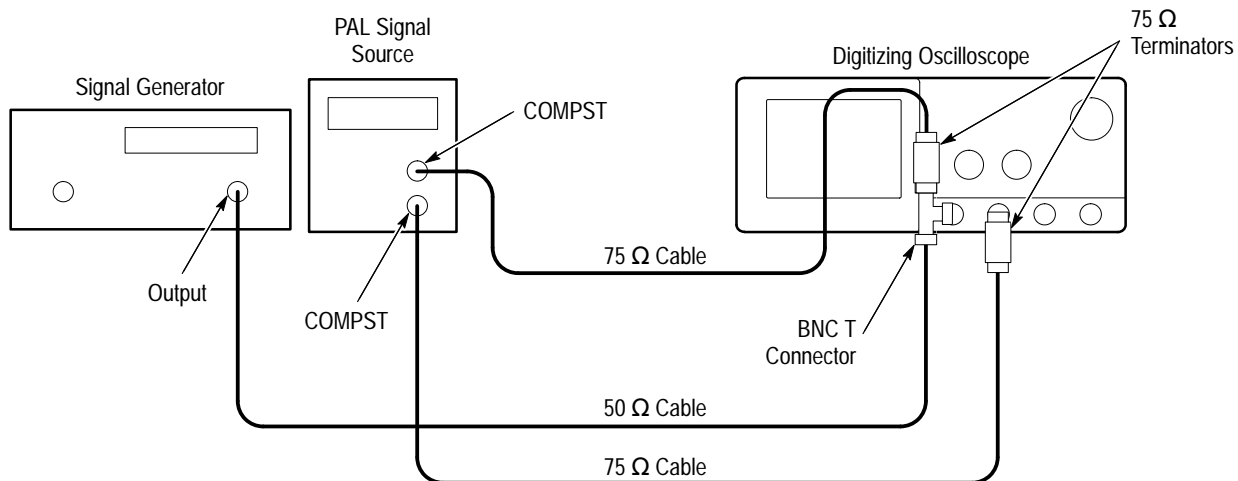

Figure 1–33: Subsequent 60 Hz Rejection Test Hookup
TSG 121) to a 75 Ω cable and a 75 Ω terminator. Connect both signals to the CH1 input through a BNC T. See Figure 1–33.
- Connect another composite signal connector of the PAL signal source (labeled **COMPST** on the TSG 121) through a 75 Ω cable and a 75 Ω terminator to the CH2 input. See Figure 1–33.
- CONFIRM that the **TRIG'D** LED stays lighted and that the waveform on screen is stable. In other words, be sure the waveform does not move horizontally or vertically. Also, confirm that the waveform on the screen has one positive pulse and a number of negative pulses. See Figure 1–34.